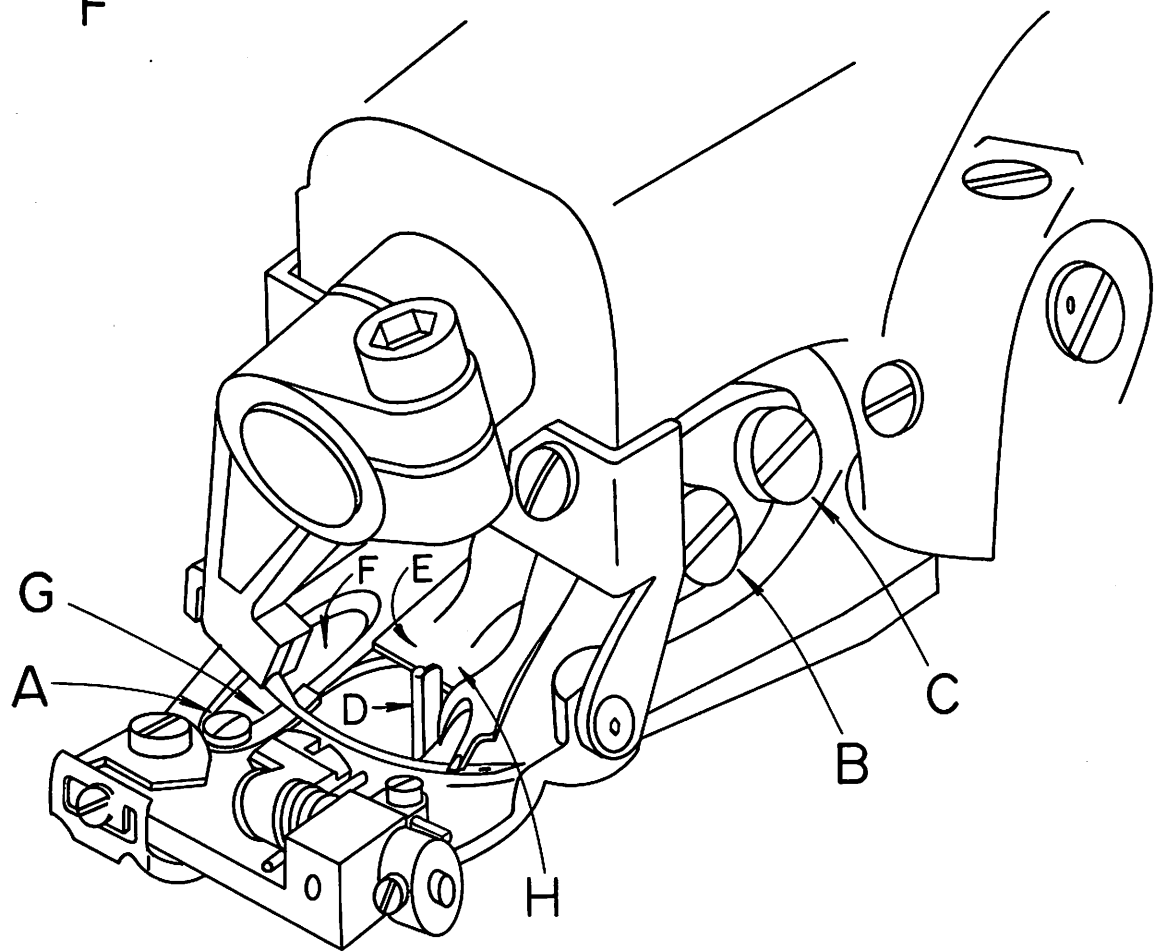
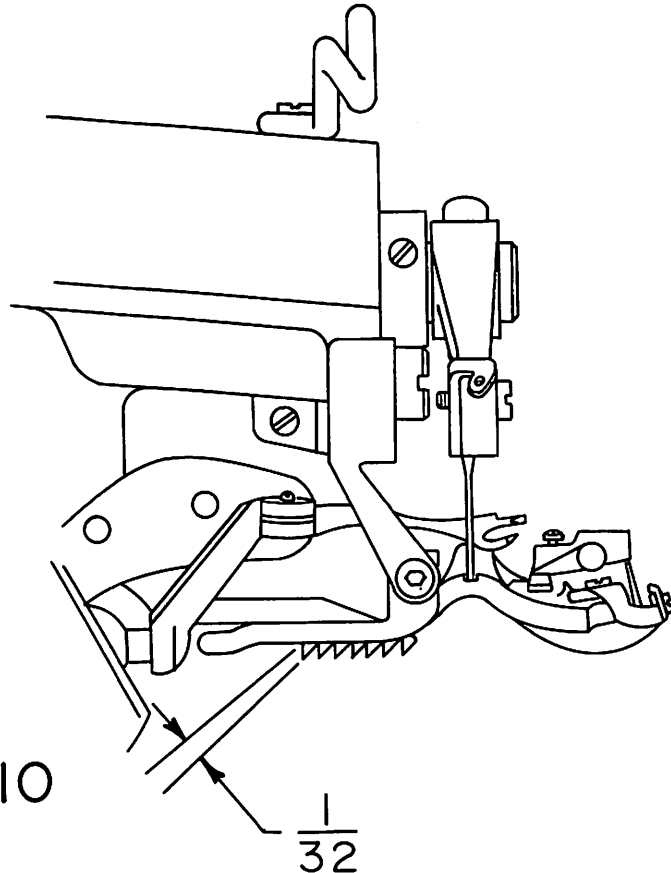

FIGURE 9
FIGURE 10
9. After all the necessary adjustments have been made, tighten all set screws and the lock nut and recheck all the adjustment points. Referring to Figure 9, the looper should now clear the chain-off pin ("D"), feeder ("E"), looper slot ("F"), needle, and pass over the needle in the correct position to pick up the loop.
1. After considerable service, it may be expected that the wearing action of the needle will cause a sharp edged groove to form on the needle guide (item "G" in Figure 9).
2. Loosen the needle guide attaching screw (item "A" in Figure 9) and remove the worn needle guide. Clear out any lint or dirt that may have accumulated under the old guide and insert the new guide. Insure that the new guide is seated flush with the top and side of the presserfoot and then retighten the attaching screw. Slowly turn the handwheel in the direction away from the operator and check to insure that the new guide fits properly under the needle and that no interference has been introduced between the guide and the looper.
1. In the event that the machine develops difficulty by failing to properly feed the work, a worn feeder is frequently found to be the cause. After considerable service, especially with certain hard fabrics, the feeder teeth have a tendency to become dull, and the feeder should be replaced. In order to remove the old feeder, remove the front feeder attaching screw (item "B" in Figure 9) and loosen the rear feeder attaching screw (item "C" in Figure 9). The old feeder may then be slid out of place. Insert the new feeder under the rear screw and replace the front screw.
2. Before tightening the attaching screws check to see that the feeder is set to the proper depth. Referring to Figure 10 this should be approximately $\frac{1}{32}$ " (.795mm) below and parallel to the bottom of the presserfoot for all light and medium weight fabrics. For heavy fabrics, the setting should be approximately $\frac{1}{16}$ " (1.59mm) below and parallel to the bottom of the presserfoot. These dimensions are intended as guides and may be modified as required by the specific fabrics. Once the proper depth is established, rotate the handwheel slowly in a direction away from the operator and check to insure that the feeder clears the looper (see Figure 9, Point "H") and also clears both sides of the feeder slot in the presserfoot. Firmly tighten feeder attaching screws (Figure 9, Items "B" & "C") before resuming sewing.